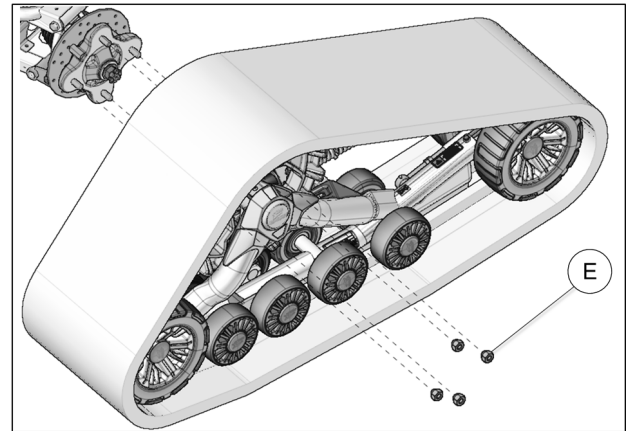

Fig. 6
- Secure undercarriage to rear hub using the provided M10 lug nuts (E). Tighten nuts to 60 N•m [45 lb•ft] of torque. See Fig. 6